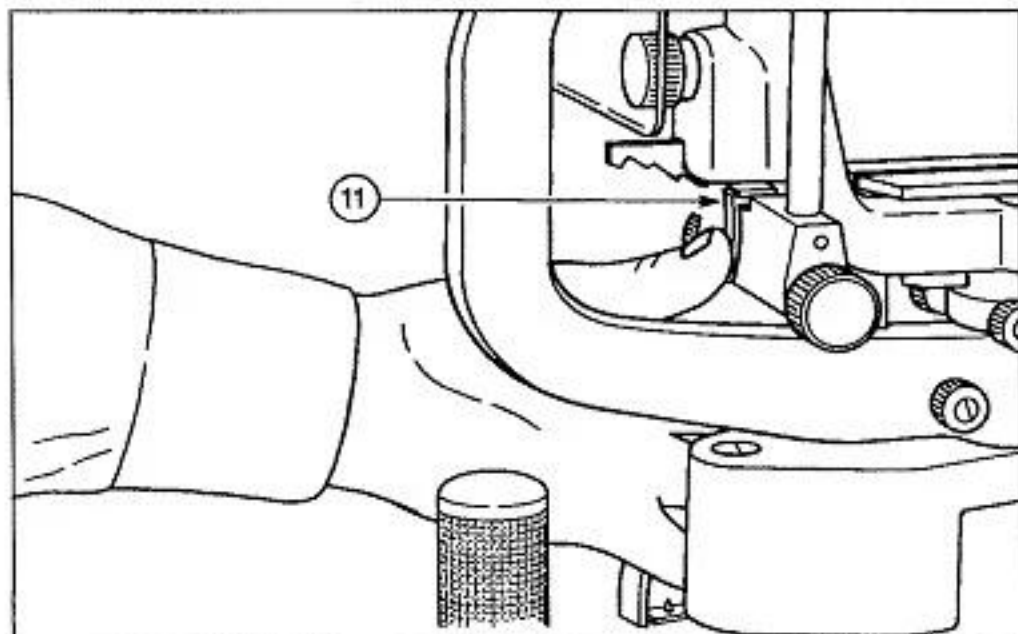

Fig. 23: (11) Latch
- 1) Tilt the illumination system by releasing Latch (Fig. 23(11)).